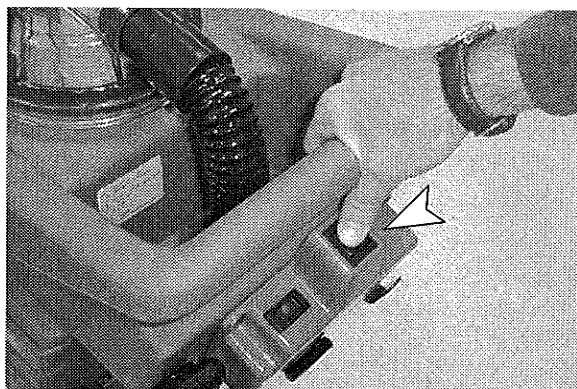

FIG. 4
3. To begin cleaning, hold down the brush/spray button and push machine forward at a pace of approximately 23 m (75 ft) per minute. For heavily soiled areas, push machine at a slower pace (Figure 4).